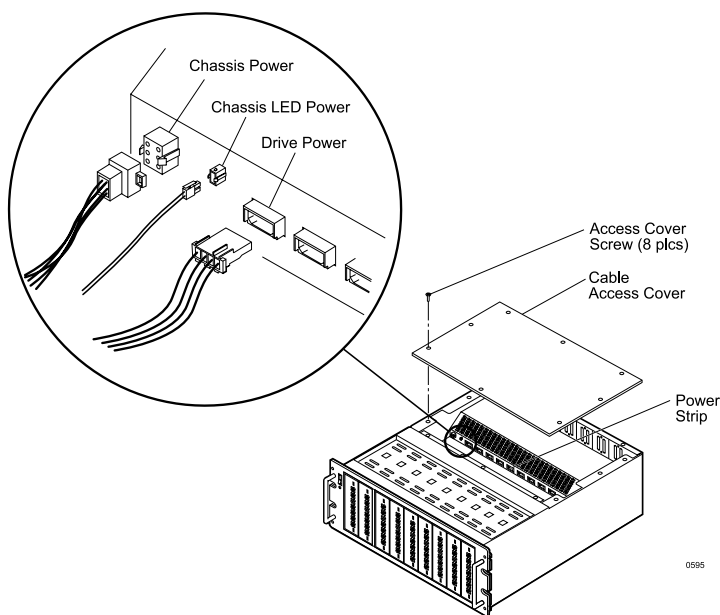

Figure B-8: Removing the Cable Access Cover/Disconnecting the Internal Cables
2. Remove the cable access cover as shown in Figure B-8.